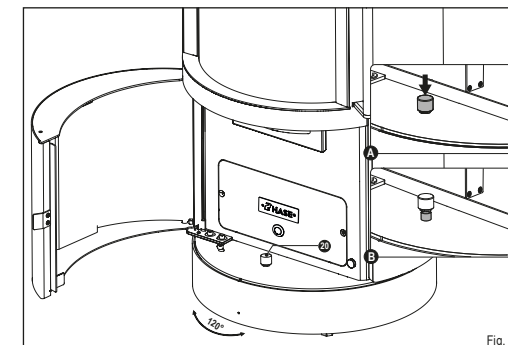

Fig. 12
On delivery, the button (20) on the rotating console is in the locked position (Fig. 12):
- **Drücken Sie auf den Taster (20), um die Sperrung zu lösen (Ausschnitt A).**
- **Press the button (20) to unlock (Section A).**
- ✓ **Once in the desired position, press the button (20) again to lock the rotating console again.**
The stove has a maximum rotation angle of 120 degrees (Fig. 12).